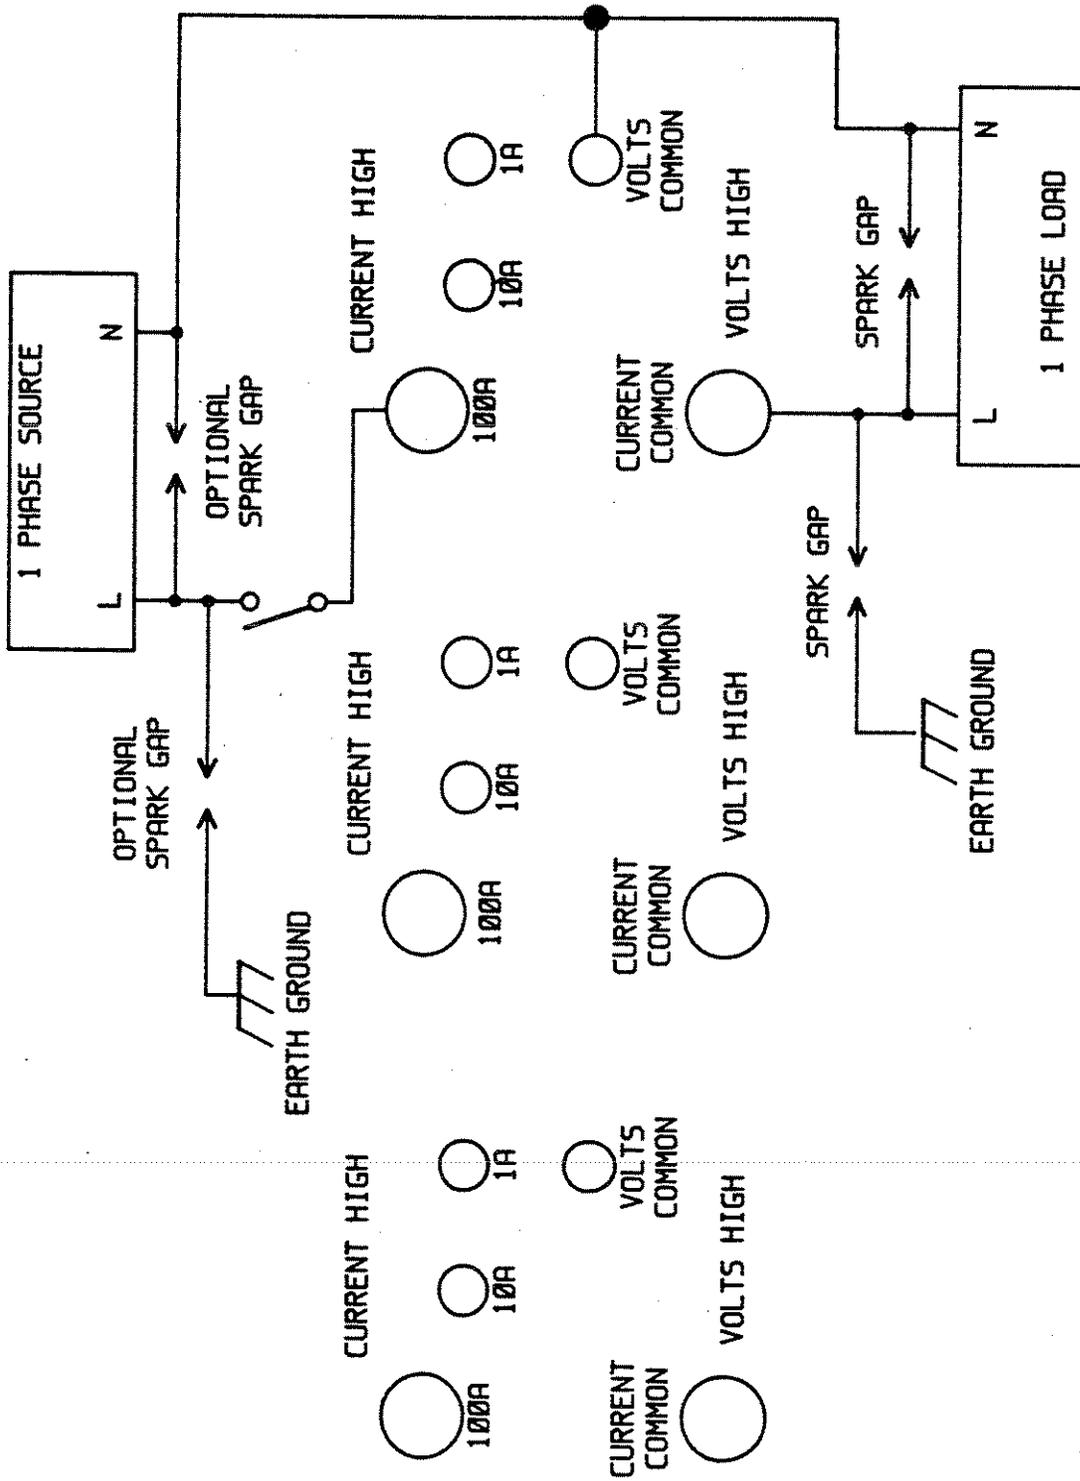

FIGURE 4 SINGLE PHASE INDUCTIVE LOAD PROTECTION METHOD 2
- Figure 4. Measuring Power Loss in Connecting Leads
protection is the preferred method of protecting the 2300 from inductive kickbacks because the protection is not dependent on the operator. The spark gap(s) dissipate the energy from the inductive kickback. Figures 4, 5 and 6 detail this type of protection for single and three-phase connected loads. When the source is also inductive, e.g. a generator, additional spark gaps should be used. In all cases the spark gaps should be connected close to the load (source) and as far from the 2300 as practical.